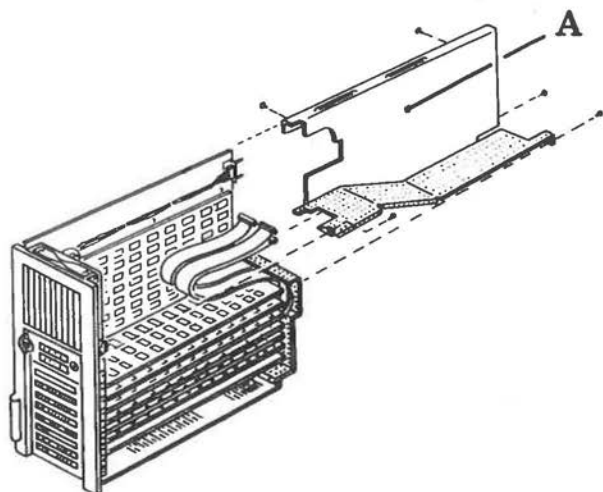

Figure 6-4 Main Board Cover Removal
1. Remove the 5 screws and lift off the metal cover (A) as shown in Figure 6-4. When removing an Alternate MPB the Speaker Connector JP7 has to be disconnected before removing the metal cover.